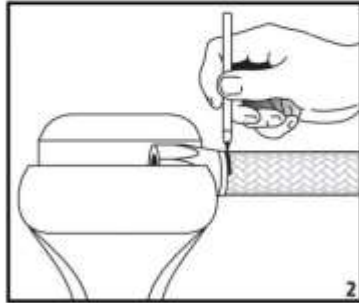

**Figure 2**
19. Plumbing will vary per application. Below is an example (**Figure 2**). Refer to appendix A and B for hose assembly and routing instructions.